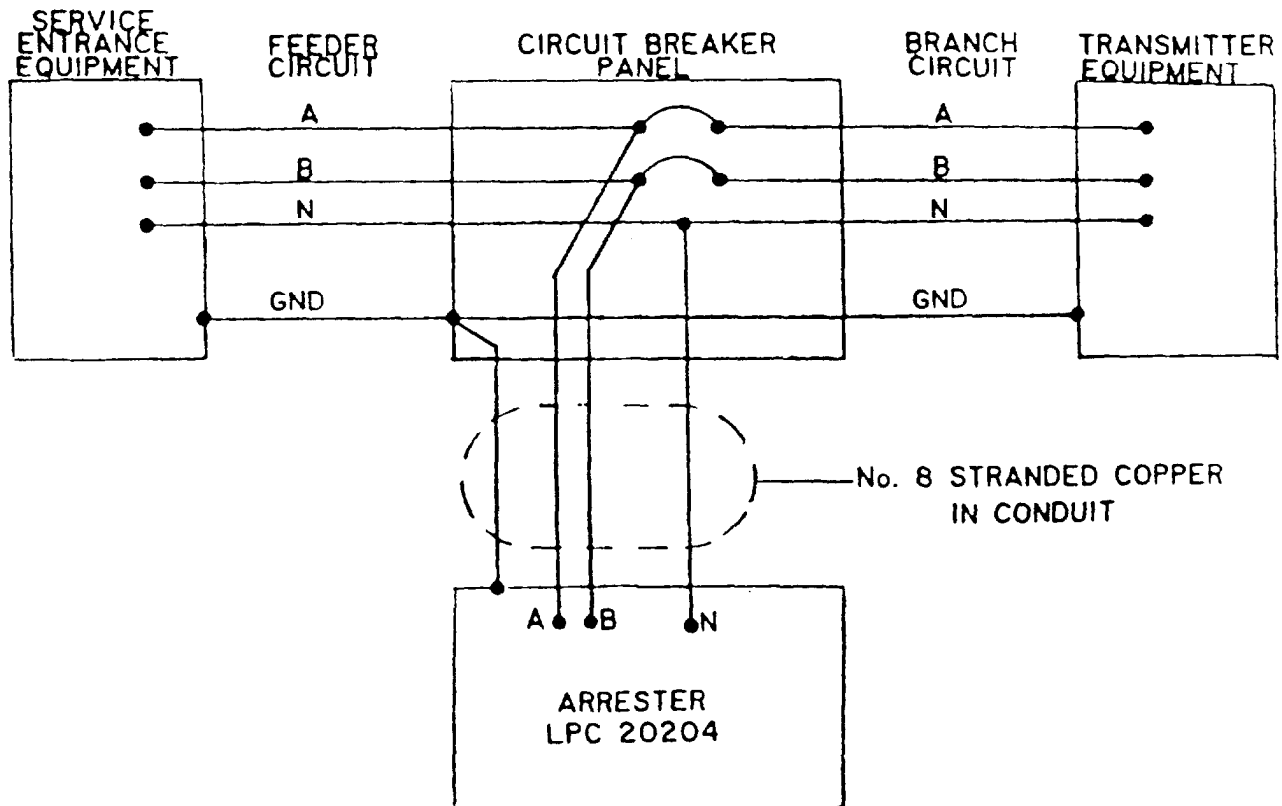
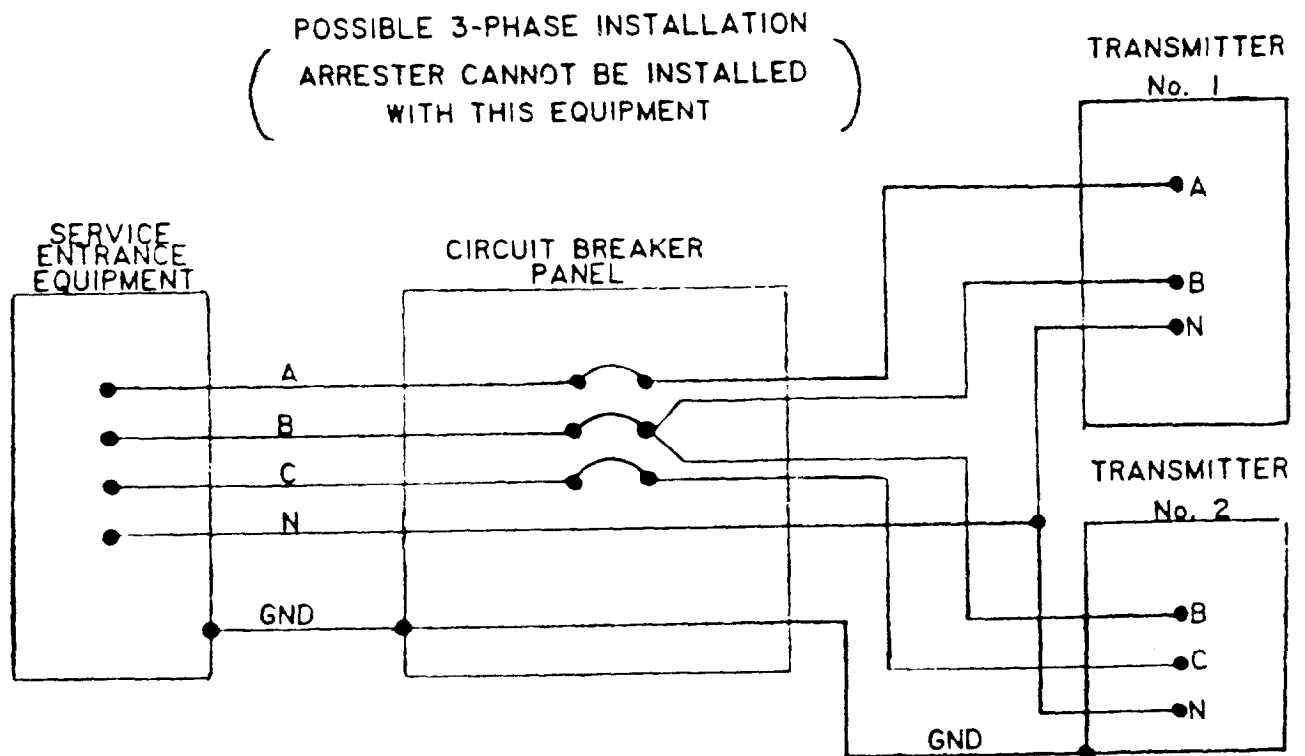

Figure 6
Figure 7
The arrester is self-contained and installation is made, electrically, in parallel with power load, as shown in Figure 6.
2. Ensure that AC primary power to transmitter is disconnected at power source distribution network, Figure 6.
When installing the lightning arrester on a three phase circuit ensure that both Transmitter #1 and Transmitter #2 are fed from the same phase. If the transmitters are not fed from the same phase a problem occurs in that the lightning arrester can only protect two 110 volt phases. In the event that the transmitters are wired AB/BC as illustrated in Figure 7, one phase of one transmitter would not be protected. In cases such as these take the time to resolve this problem by rearranging the circuit breakers or the wiring within the panel box. Install arrester per Figure 6.